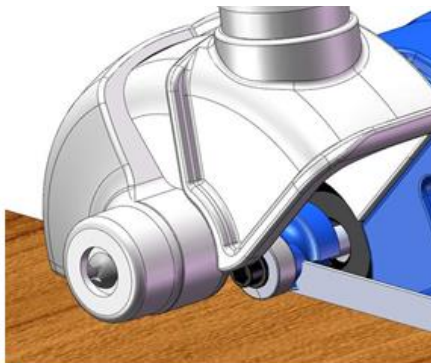

Fig. 16
- To move the trimmer horizontally for trimming when trimming wider spare edge band (Fig 16 & 17)